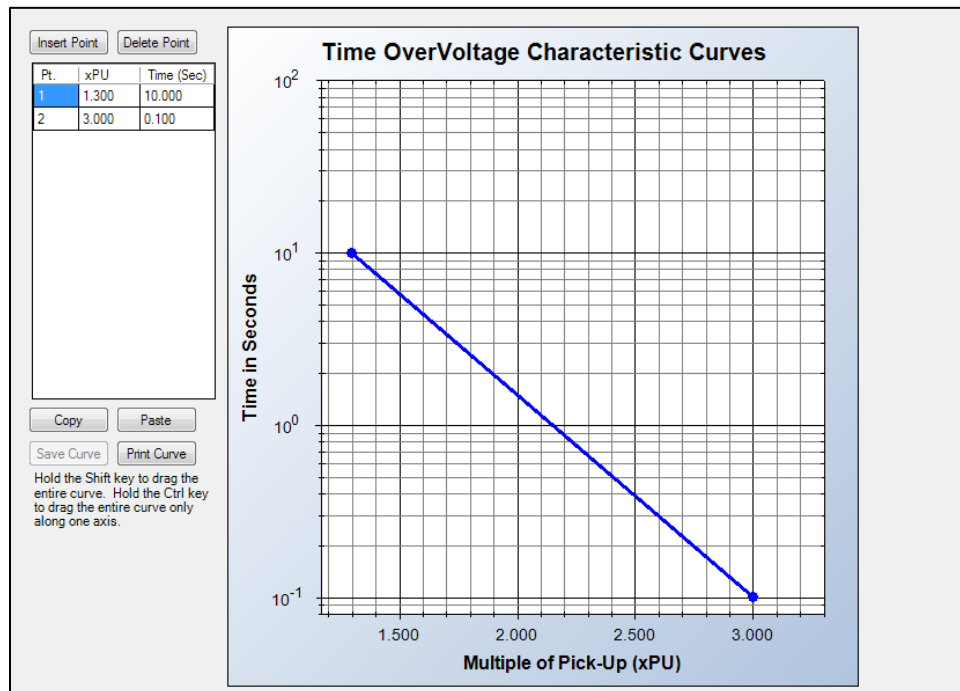

Figure 8-1. Time OverVoltage Characteristic Curves
*BESTCOMSPPlus* is used to set the 27P element Table Curves (T1, T2, T3, and T4). Using the Settings Explorer within *BESTCOMSPPlus*, open the Protection, Voltage, Overvoltage, Table Curves, Table Curve (1, 2, 3, or 4) tree branch and select the table curve to be modified. Refer to Figure 8-1. A minimum of 2 and maximum of 40 points can be entered for any one T curve. When you are satisfied with the values chosen, select Save Curve. Use the Settings Explorer to browse to the 59X-x element you wish to program and use the drop-down menu under Curve to select T1, T2, T3, or T4.